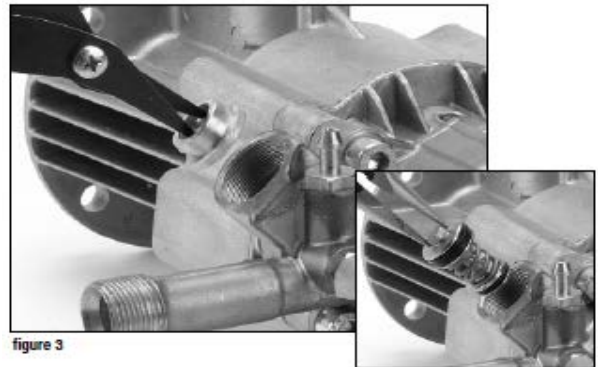

figure 3
2) Remove brass bushing. (shown in figure 3)
3) Pull out Spill (Unloader) Valve. (insert figure 3)